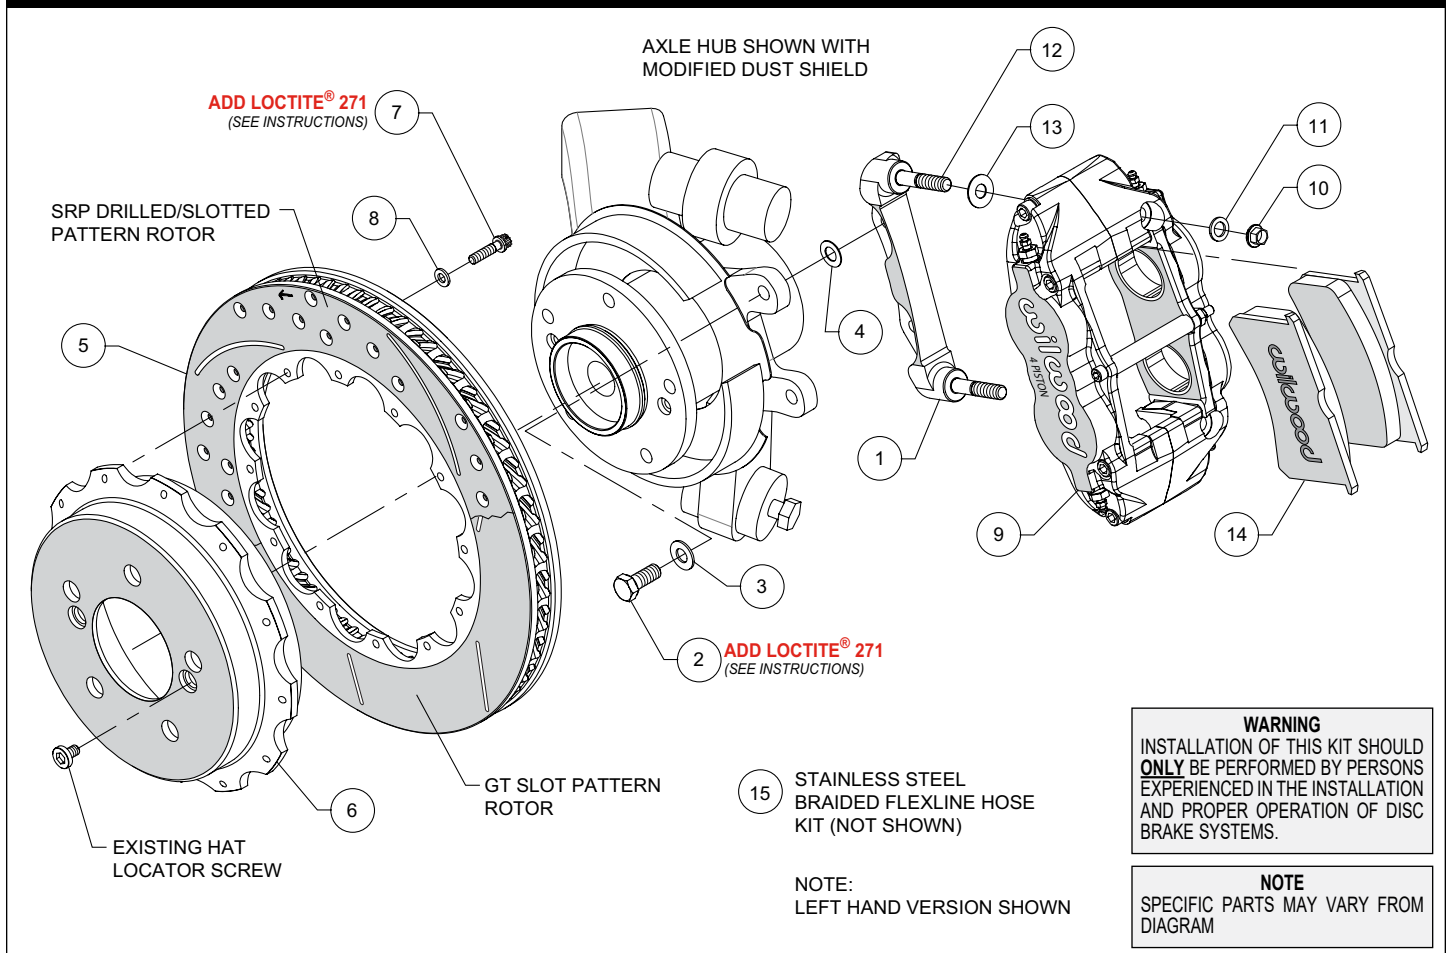
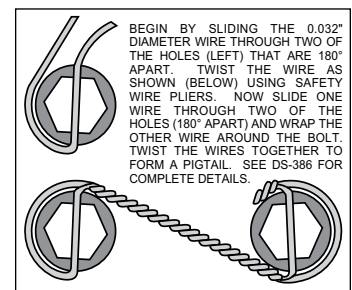

Figure 1. Typical Installation Configuration
Figure 3. Safety Wire Diagram
Assembly Instructions (numbers in parenthesis refer to the parts list and Figure 1 on the preceding pages):
- The caliper mount bracket (1) should initially be installed with clean, dry threads on the mounting bolts. Orient the bracket as shown in Figure 1 and Photo 3, and install using bolts (2) and washers (3). Initially place one .030 thick shim (4) on each bolt between the bracket and upright, Figure 1. Temporarily tighten the mounting bolts. **NOTE:** *The bracket must fit squarely against the mounting points on the upright.* Inspect for interference from casting irregularities, machining ridges, burrs, etc. Later, after the caliper alignment has been checked, the mount bolts will be secured using red *Loctite*® 271.
- Orient the rotor (5) and the hat (6) as shown in Figure 1 and Photo 4. Attach rotor to hat using bolts (7) and washers (8). Apply red *Loctite*® 271 to the bolt threads and torque to 155 in-lb using a criss-cross pattern. For an added measure of security, the bolts may be safety wired using standard 0.032 inch diameter stainless steel safety wire as shown in Figure 3. Please refer to Wilwood's data sheet DS-386 (available at www.wilwood.com/Pdf/DataSheets/ds386.pdf) for complete safety wire installation instructions.
- Initially place one .035" thick shim (13) on each stud (12) as shown in Figure 1 and Photo 6. Mount the caliper (9) onto the bracket (1) using lock nuts (10) and washers (11), Figure 1. Temporarily tighten the lock nuts and view the rotor through the top opening of the caliper. The rotor should be centered in the caliper, Photo 7. If not, adjust by adding or subtracting shims (4) between the bracket and the mounting bosses. Always use the same amount of shims on each of the two mounting bolts. Once the caliper alignment is correct, remove the bracket mounting bolts (2) one at a time, apply red *Loctite*® 271 to the threads, and torque to 35 ft-lb.
- Remove the caliper center bridge pad retainer bolt, nut, and tube from the caliper. Insert the brake pads (14) into the caliper, with the friction material facing the rotor, as shown in Photo 8. Check that the top of the brake pad is flush with the outside diameter of the rotor, Photo 9. If not, adjust by adding or subtracting shims